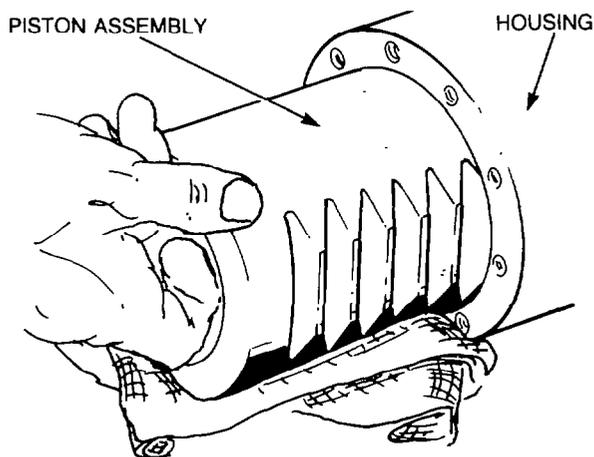

Figure 292 — Piston — Installation
- t. Apply a light coat of clean engine oil to the cylinder bore and the piston, then carefully install the piston in the cylinder bore, ensuring that the opening for the actuating shaft is towards the bearing cap end of the housing (see Fig. 292).